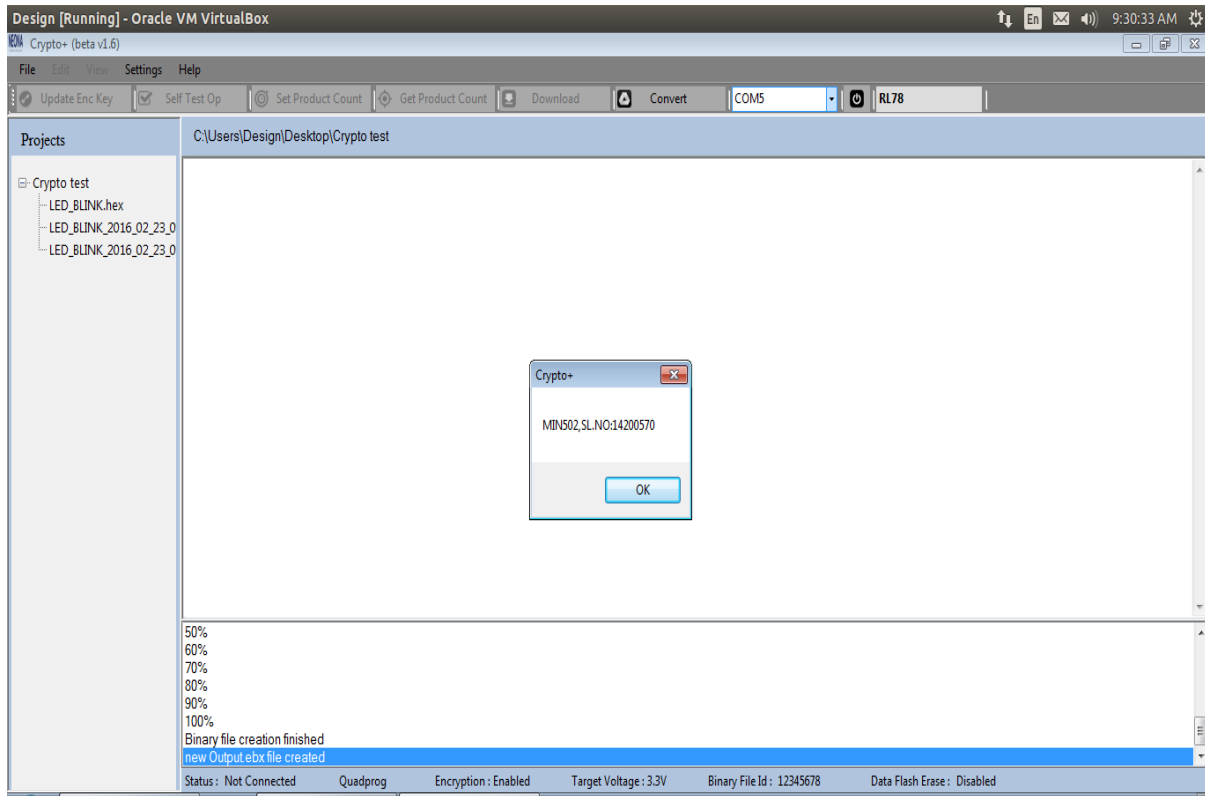

Figure 2.31
STEP 3: A window showing the firmware version & serial number will appear as shown in figure 2.31. Click **OK**.